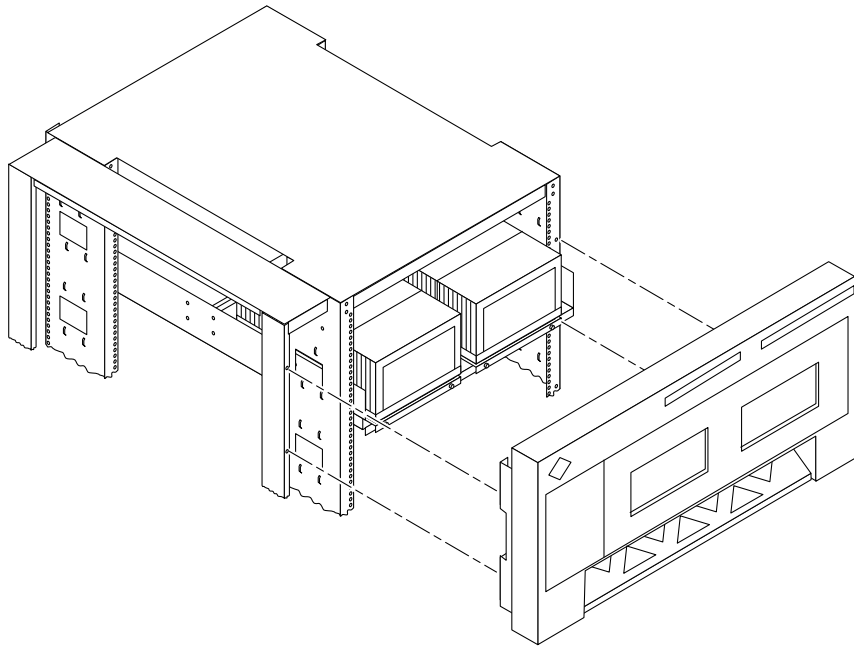

FIGURE 5-3 Installing the Bezel/Door Panel Assembly on the System Rack
1. Align the bezel/door panel assembly with the four mounting studs on the system rack (FIGURE 5-3).